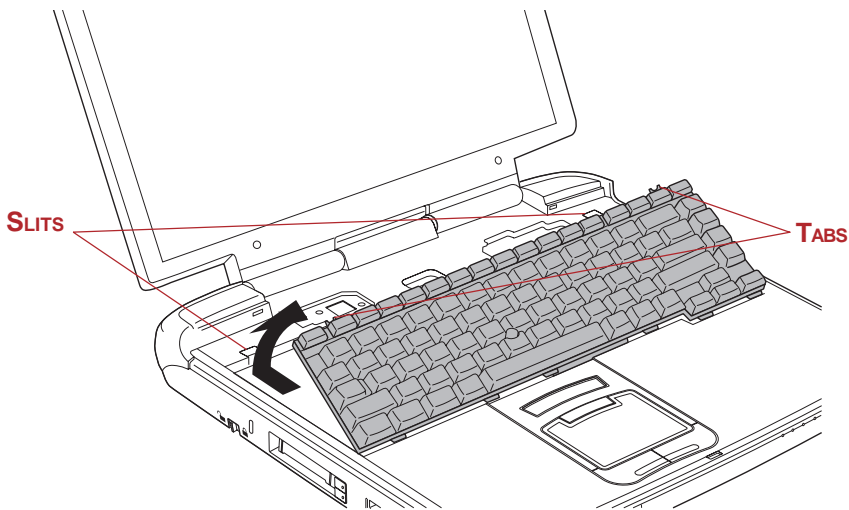

Figure 8-9 Removing the keyboard (2)
12. Insert two tabs of the keyboard into the slits of the computer case and seat the keyboard at the original position. Refer to Figure 8-9 for tabs and slits. Fix it with three screws removed in 6.